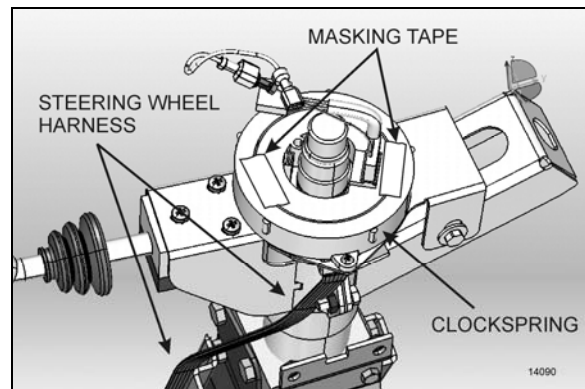

FIGURE 13: LOCKING THE CLOCKSPrING IN PLACE
7. Once the steering wheel is removed, it is important to block any rotating movement of the clockspring in order to prevent it from losing its neutral position. Use two pieces of masking tape to lock it in place (Figure 13).